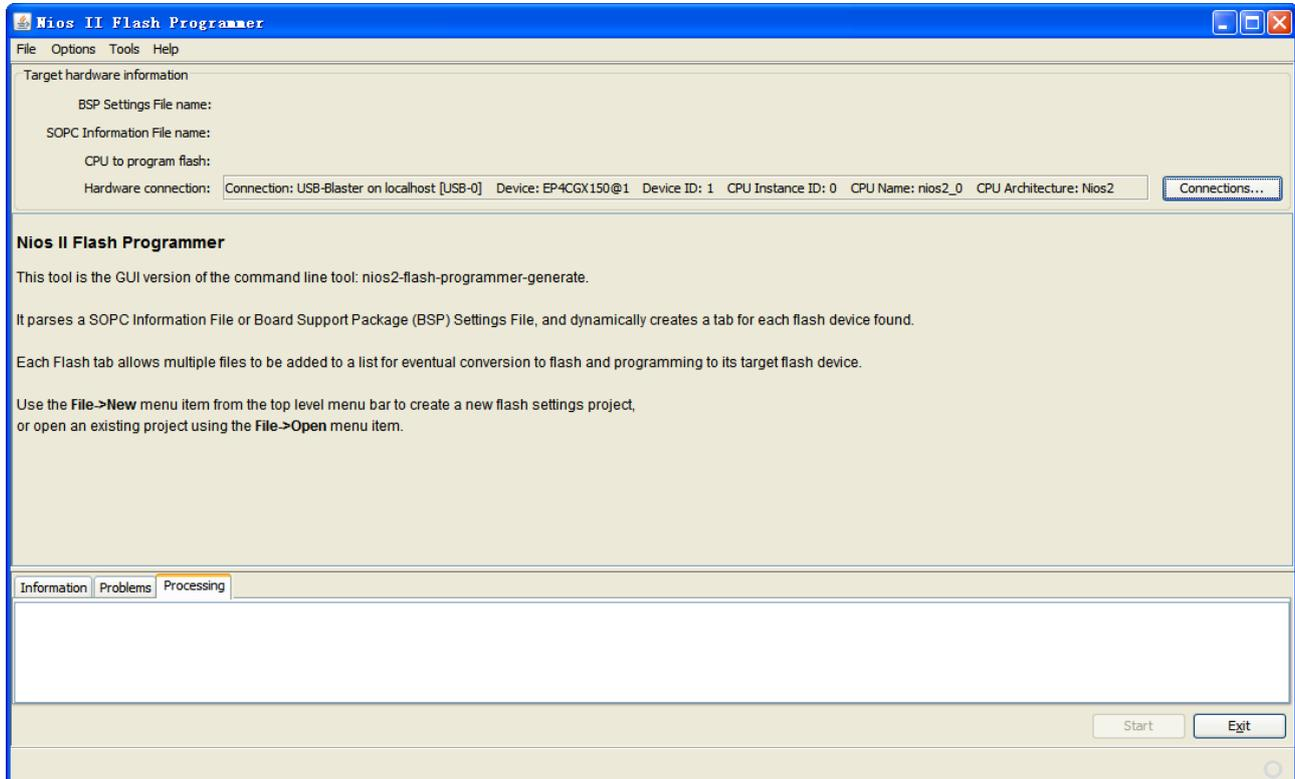

Figure 3-23 Flash Programmer Box
1. Choose **Nios II > Flash Programmer** to open Nios II Flash Programmer box. See Figure 3-23.